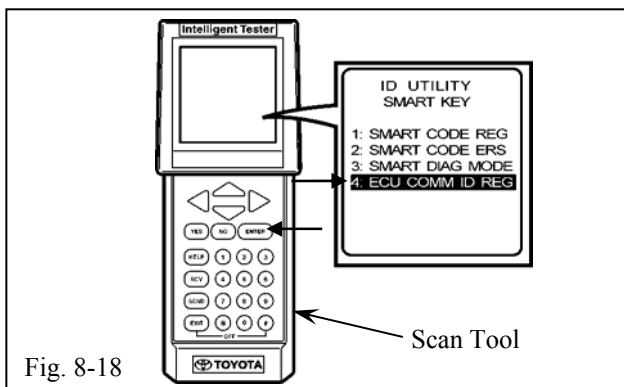

Fig. 8-18
- (z) Select "ECU COMM ID REG" in the ID Utility Menu with the Scroll Key, then press the "ENTER" button. (Fig. 8-18)